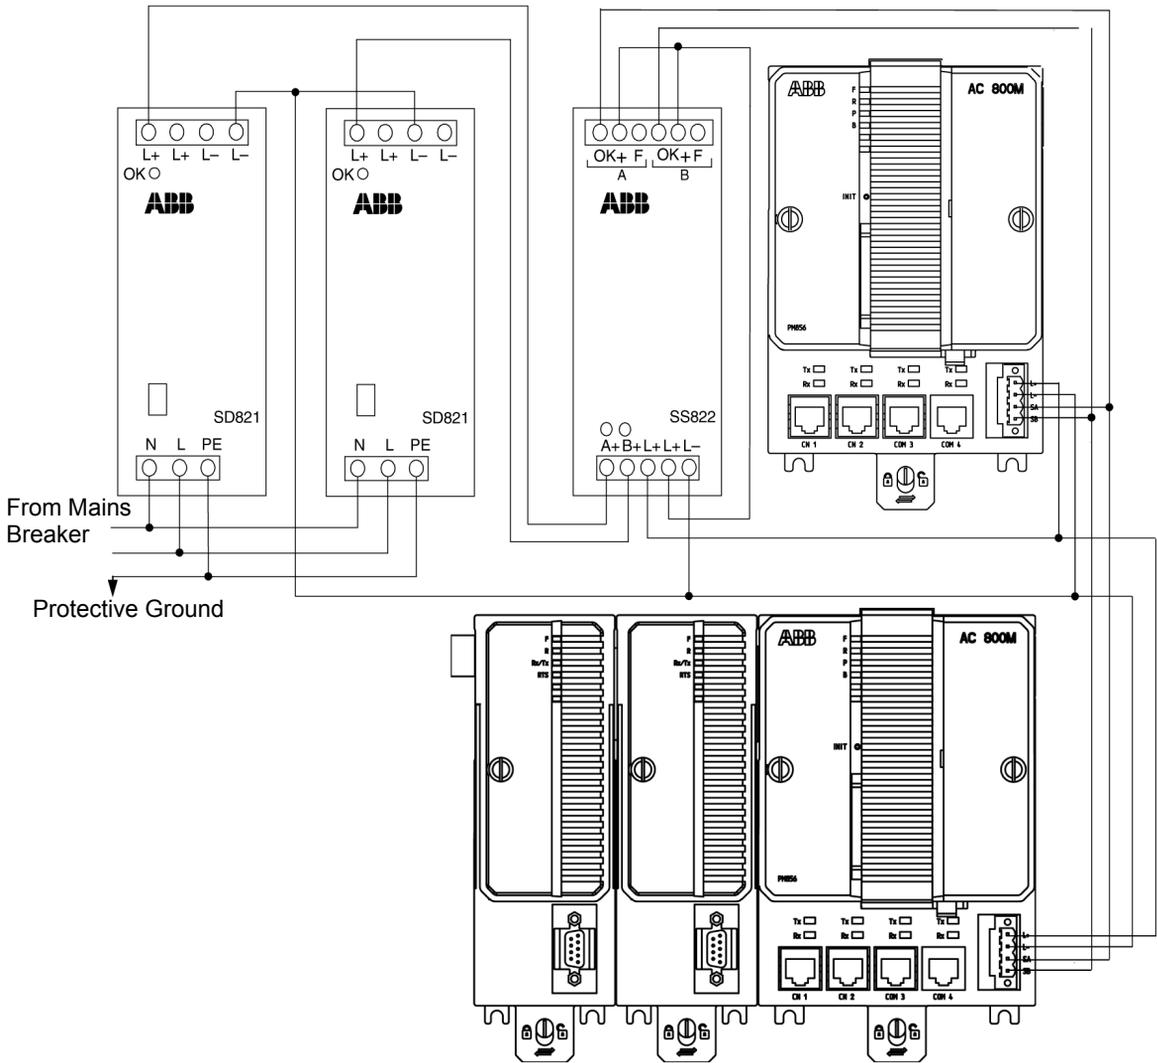

Figure 46. Redundant Power Supply Powering Redundant CPUs
3. Connect the SS82x voting unit to the processor unit. Figure 46 on page 140 shows the connection to PM861/PM864/PM865 in redundant configuration.
+24 V on the SA/SB indicates working power supplies. 0 V on SA/SB indicates an error in the corresponding power supply and lack of redundancy. SA/SB signal connection is shown in Figure 46 on page 140, Figure 47 on page 141 and Figure 48 on page 142.
Figure 46 on page 140 show redundant power supplies powering AC 800M units. Here the SA/SB signals also indicate physical power supplies.